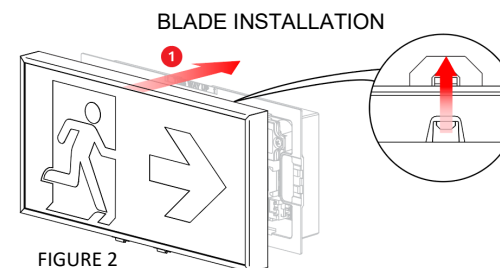

FIGURE 2
- Attach blade by pressing the Blade clips onto the catches of the box (see Figure 2). Ensure all clips are engaged correctly.